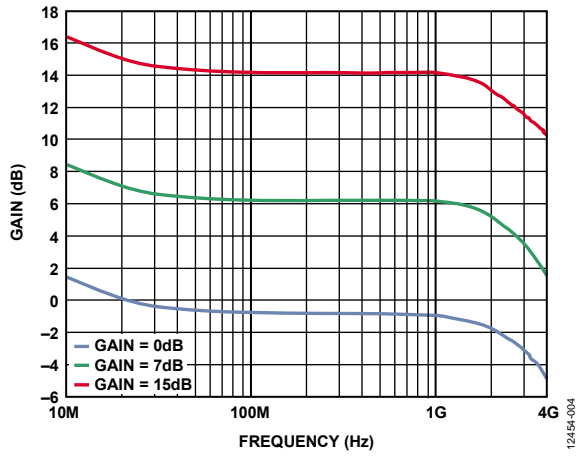
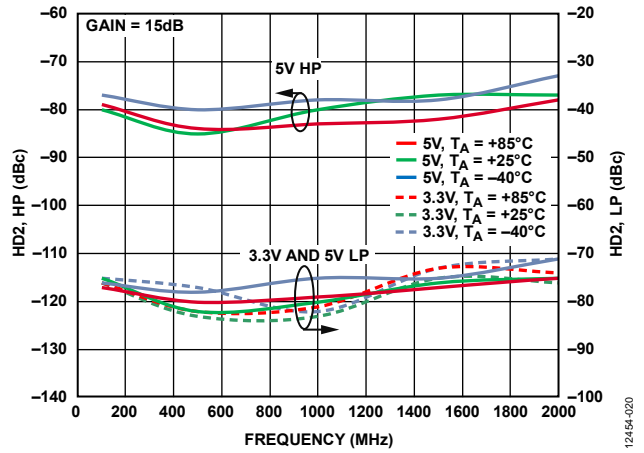
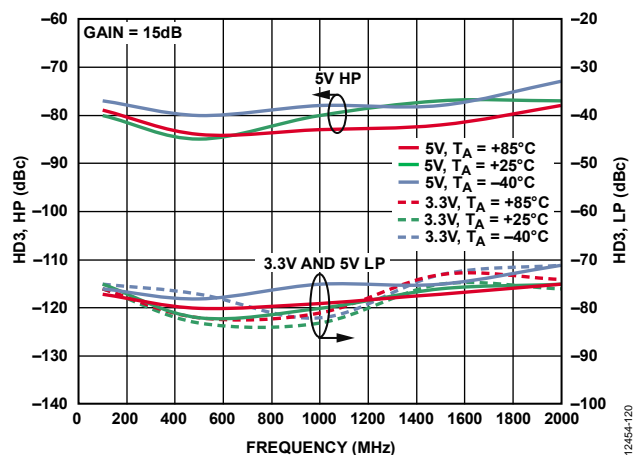
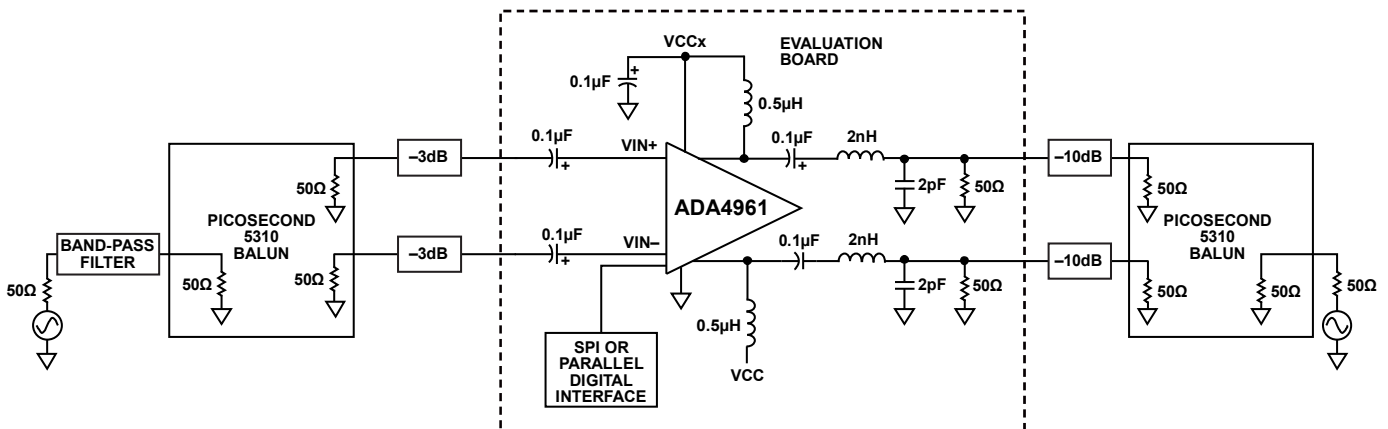

Figure 4. Gain vs. Frequency at 15 dB, 7 dB, and 0 dB Gain Settings, 5.0 V
Figure 20. HD2 vs. Frequency at Three Temperatures, +5.0 V, +3.3 V, with Low-Pass Filter
Figure 21. HD3 vs. Frequency at Three Temperatures, 5.0 V, 3.3 V, with Low-Pass Filter
Figure 37. Test Circuit for Single Tone Distortion
Figure 37 is used in part of the ac characterization of the ADA4961. The picosecond 5310 balun provides the differential input signal and the 100 Ω differential match to the device. The 3 dB pads make the picosecond balun 50 Ω impedance less reactive on one side, which balances the differential phase accuracy. On the outputs, the 2 nH and 2 pF create a two-pole low-pass filter, along with the two 50 Ω resistors in parallel with the pads and output picosecond balun. This filter creates the 50 Ω differential load.
The output pads make the load more balanced. This is essential for good HD2 performance. This filter technique also creates a lighter load (slight peaking) for the device at higher frequencies, which improves the IMD3 performance. Though the filter bandwidth (BW) computes to 3.3 GHz, the parasitic C (not shown in Figure 37) across the 2 nH filter inductors reduces the 3 dB BW to about 2 GHz (see Figure 4). The filter, beyond reducing integrated output noise, also reduces the higher frequency second and third harmonics above 1 GHz and 700 MHz, respectively (see Figure 20 and Figure 21).